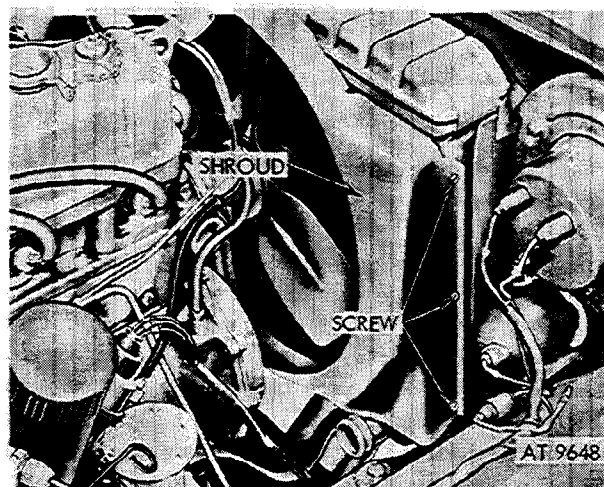

Figure 2-136. Remove radiator.
(6) Remove six screw and lockwasher assemblies from fan shroud and remove radiator (fig. 2-136).
*b. Installation.* Install radiator by reversing removal operations. Refer to figures 2-136 back to 2-132. Torque the following attaching parts to the values shown: